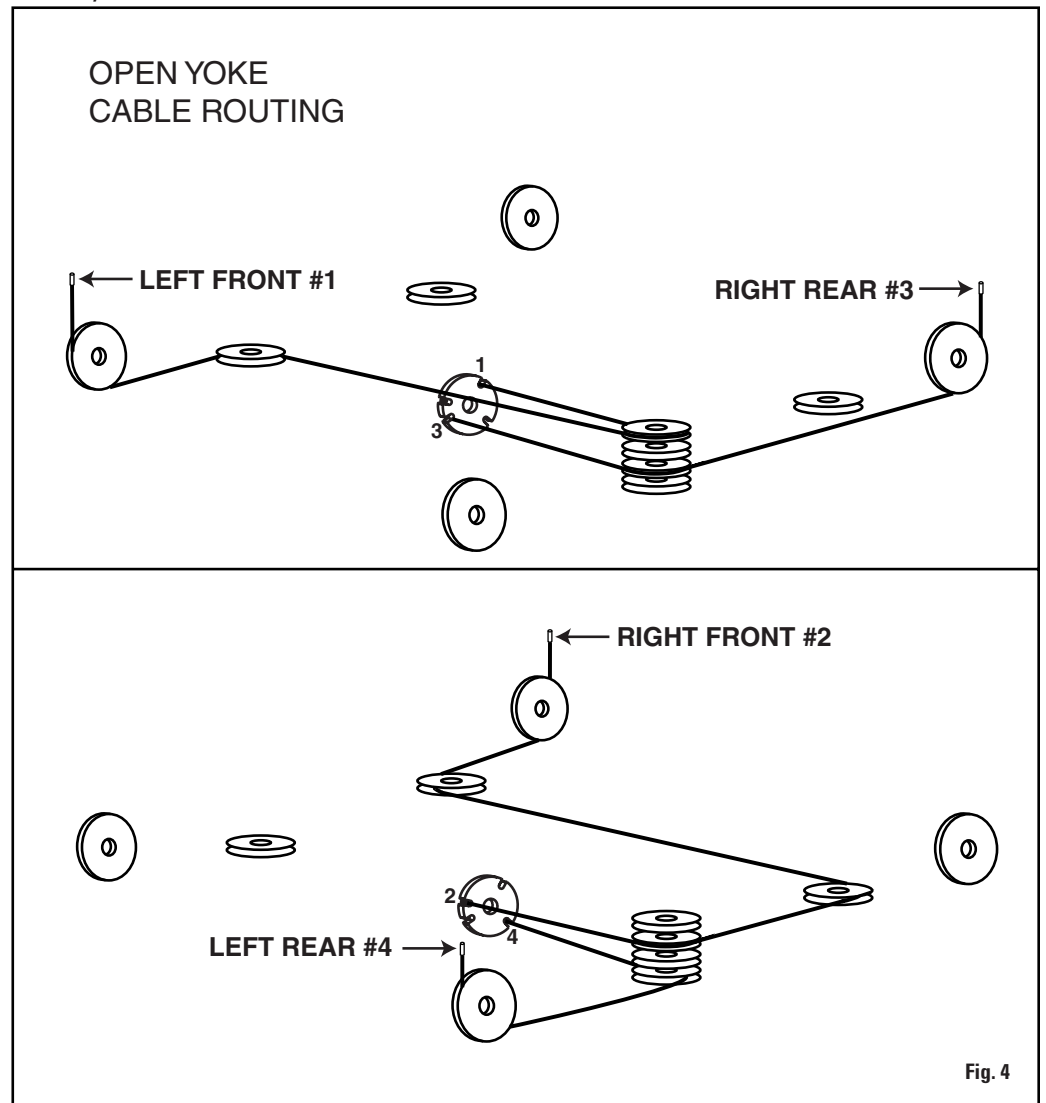

Fig. 4
- F. **IMPORTANT** Be sure cable is isolated in the sheave groove. Attach each cable to column top plate with washer, nut, and jam nut, Fig. 9. Install plastic sheave guard on each yoke end. Roping diagram shows a view of completed roping, Fig. 4.